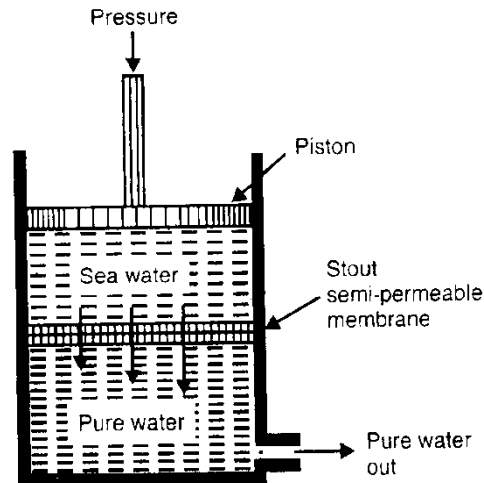

Fig. 10. Reverse Osmosis cell
**Method:** In this process, pressure is applied to the sea water or impure water to force the pure water content of it out the semi-permeable membrane, leaving behind the dissolve solids. The principle of reverse osmosis as applied for treating saline/sea water as illustrated in **fig 10**. The membrane consists of very thin film of cellulose acetate, affixed to either side of a perforated tube. However, more recently superior membranes made of polymethacrylate and polyamide polymers have come into use.